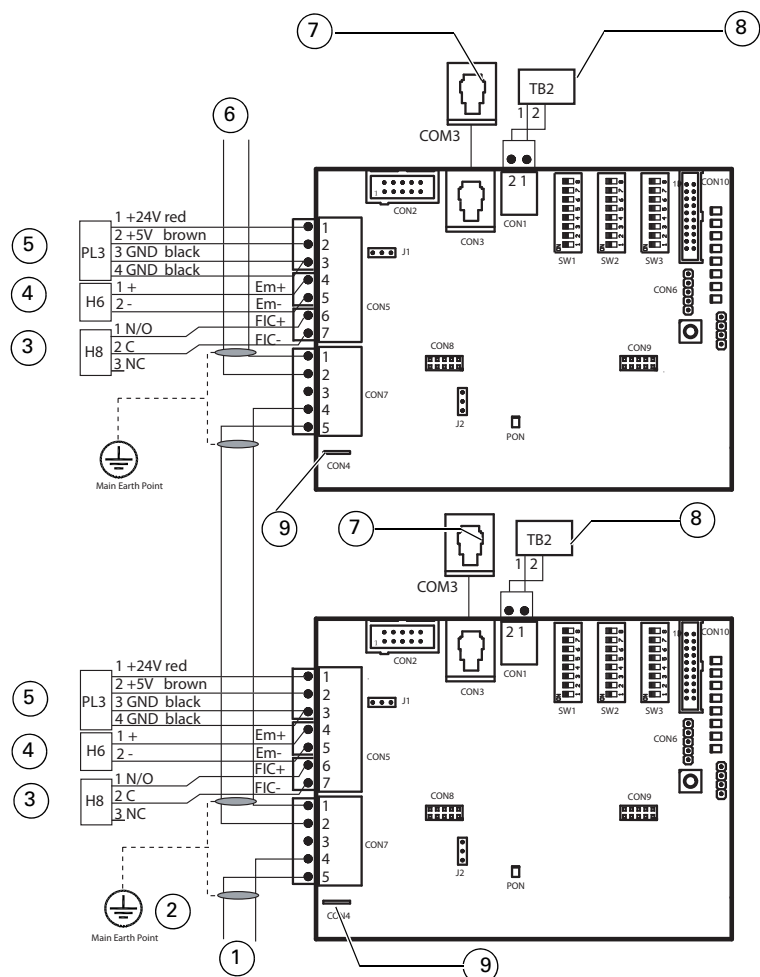

Fig. 5: Wiring diagram, RS485 network line.
- 9 Connect the metal network cabling (see Fig. 5 on page 10 and Table 17 on page 14).
- 10 Connect the power cable as shown in Fig. 5 on page 10 (see also Table 16 on page 14).
- If the FireClass Panel is a Master Panel, connect the FIM H6 EMERGENCY ALARM INPUT to the TLI800EN Emergency I/O as shown in Fig. 5 on page 10.
- If the FireClass Panel is NOT a Master Panel, connect FIM H8 ALARM to TLI800EN FIC I/O as shown in Fig. 5 on page 10.